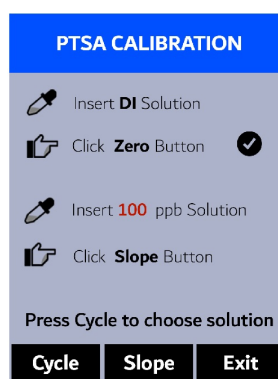

Figure 14.
7. If the calibration succeeds, a checkmark (**✓**) and instructions for the slope calibration will appear (Figure 14).